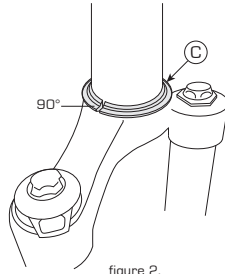

figure 2.
- 7) Press the [C] crown race on to the fork's steerer tube, leaving the split perpendicular to the front wheel. Make sure that you have put it on correct side up as shown in figure 2;